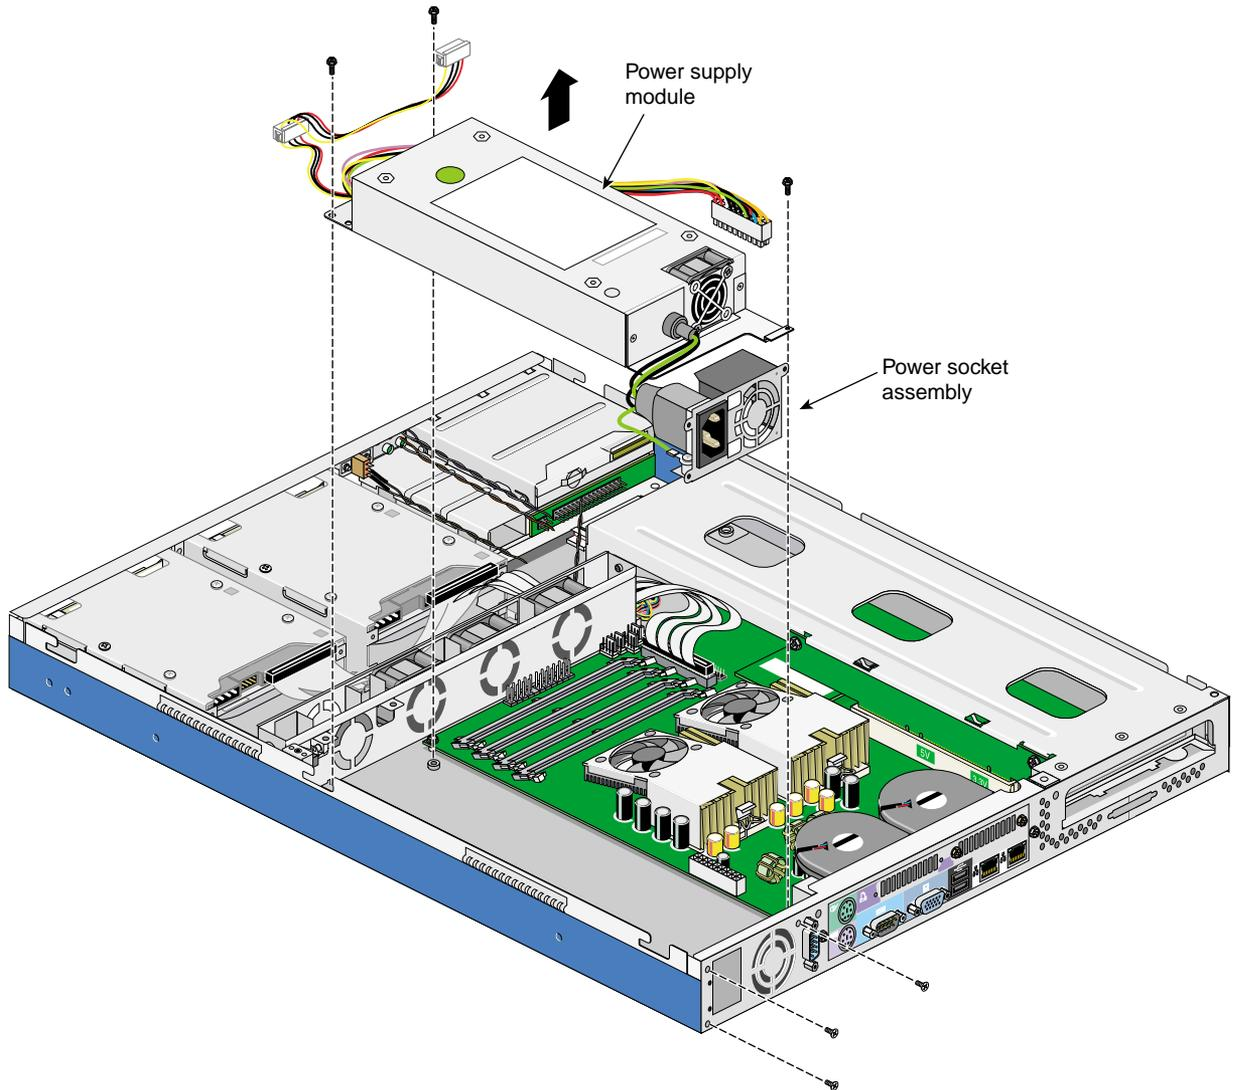

Figure 2-44 Removing the Power Supply Module
- Remove the three screws from the power supply module as shown in Figure 2-44.
8. Remove three screws to release the power socket module as shown in Figure 2-44.
9. Lift up the power supply module from the chassis as shown in Figure 2-44.